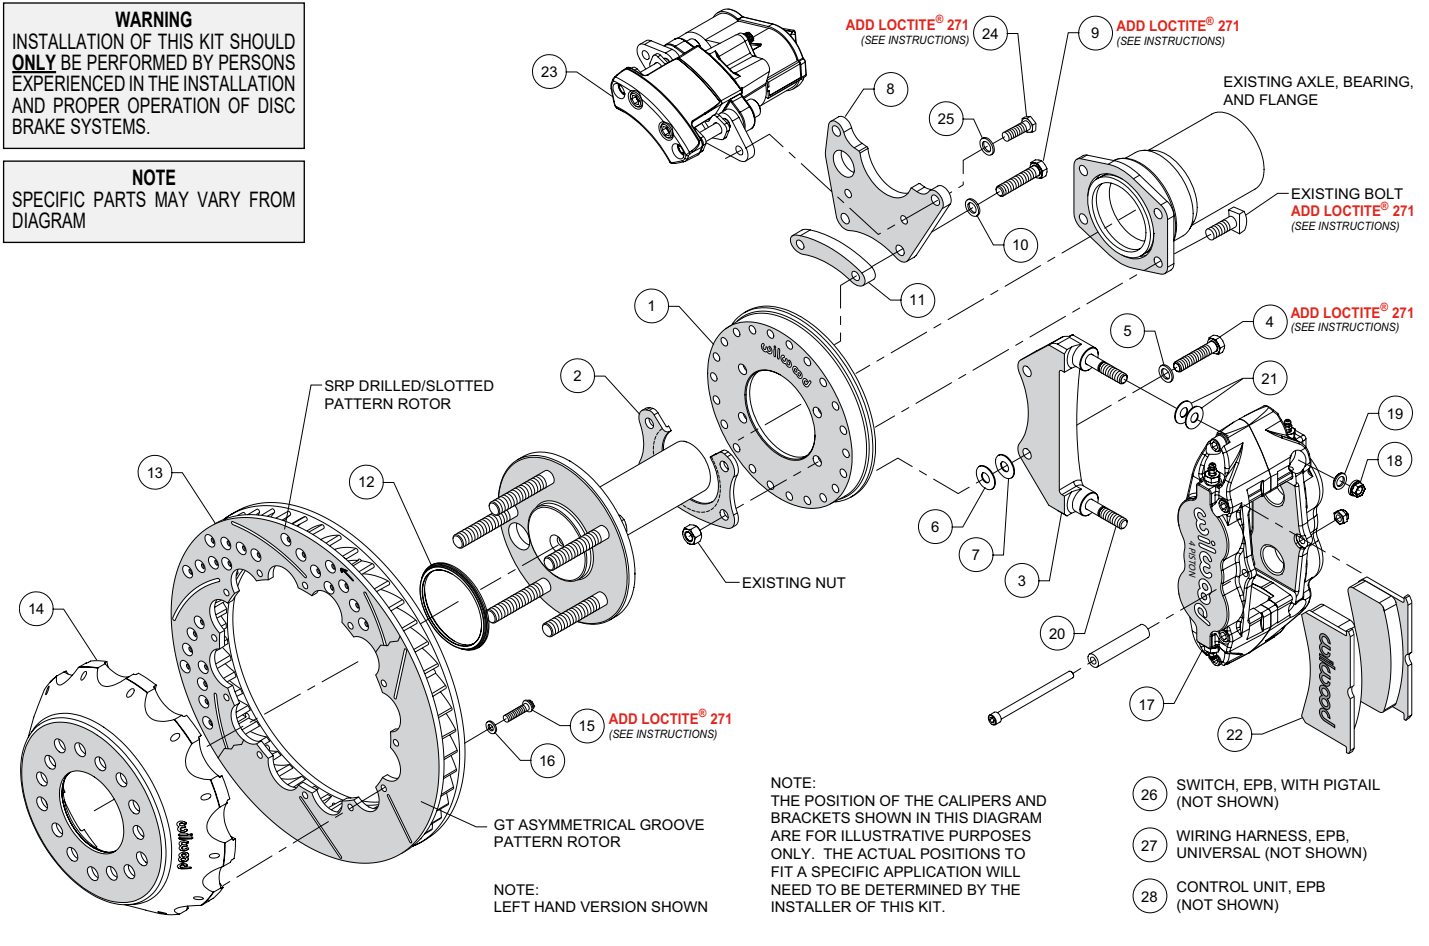
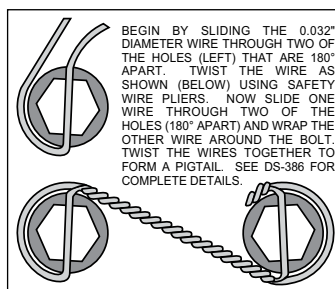

Figure 1. Typical Installation Configuration
Figure 5. Safety Wire Diagram
NOTE: Numbers in parenthesis refer to the parts list and Figure 1 on the preceding pages.
- Orient the backing plate (1) as shown in Figure 1 and Photo 1, and slide it onto the axle housing flange. Ensure the backing plate fits flush against the axle housing flange. Reinstall the axle into the axle housing.
- Install the bearing retainer (2) with the opening pointing upward and the lip facing inward (toward the bearing), as shown in Figures 1 and 4, and Photo 2. Secure retainer and backing plate to the axle housing flange using the Original Equipment Manufacturer (OEM) bolts and nuts, Figure 1 and Photo 3. Apply red *Loctite*® 271 to the OEM bolt threads and torque to OEM specifications.
- Start by determining the best location for the service caliper (17). This caliper is usually mounted in the 3:00 or 9:00 o'clock position, but may be rotated up or down approximately 45 degrees and still allow for proper bleeding, Photo 4. Orient the service caliper bracket (3) as shown in Figure 1 and Photo 5, and install to the backing plate (1) in the desired location using bolts (4) and washers (5). Temporarily tighten bolts. Next, mount the service caliper onto the bracket. Mount the service caliper using lock nuts (18) and washers (19), Figure 1. Temporarily tighten the lock nuts. Check that the caliper (including inlet fitting and hose) has sufficient clearance to all surrounding components through the full suspension travel. Relocate the caliper/bracket on the backing plate as needed to ensure proper clearance is achieved.
- Determine the best location for the EPB caliper (23). **NOTE:** *The EPB caliper motor extends farther inboard than the service caliper and therefore needs additional consideration when determining a mounting location with sufficient clearance.* In the example application shown in Photo 6, the EPB caliper has sufficient inboard clearance to the leaf spring. However, if the EPB caliper were mounted closer to the 12:00 o'clock position, the inner body of the vehicle would hit the caliper during full compression of the suspension.
•Orient the EPB caliper bracket (8) as shown in Figure 1 and Photo 7, and install to the backing plate (1) in the desired location using bolts (9), washers (10), and spacer (11). Temporarily tighten bolts. **NOTE:** The EPB bracket is reversible. In one direction the bracket will position the EPB caliper closer to the service caliper, and vice versa if reversing the bracket. Next, mount the EPB caliper (23) to the bracket using bolts (24) and washers (25). Temporarily tighten bolts. **NOTE:** EPB calipers are Left and Right handed, however they can be used on either side of the vehicle to best suit your specific application. Check that the EPB caliper (including wiring harness connector) has sufficient clearance to all surrounding components through the full suspension travel. Relocate the EPB caliper/bracket on the backing plate as needed to ensure proper clearance is achieved.
•Once the caliper positions have been determined, remove both the service (17) and EPB (23) calipers, leaving both brackets in place on the backing plate. For the EPB bracket, remove the bolts one at a time, apply red *Loctite*® 271 to the threads, and torque to 35 ft-lb. The service caliper bracket will be final installed after shimming is determined.
•Orient the rotor (13) and the hat (14) as shown in Figure 1 and Photo 8. Attach rotor to hat using bolts (15) and washers (16). Apply red *Loctite*® 271 to the bolt threads and torque to 155 **in-lb** using a criss-cross pattern. For an added measure of security, the bolts may be safety wired using standard 0.032 inch diameter stainless steel safety wire as shown in Figure 5. Please refer to Wilwood's data sheet DS-386 (available at www.wilwood.com/Pdf/DataSheets/ds386.pdf) for complete safety wire installation instructions.
•Initially place two .035" thick shims (21) on each stud of the service caliper bracket (3), as shown in Figure 1 and Photo 10. Mount the caliper onto the bracket using lock nuts (18) and washers (19), Figure 1. Temporarily tighten the lock nuts and view the rotor through the top opening of the caliper. The rotor should be centered in the caliper, Photo 11. If not, adjust by adding or subtracting shims (6 and/or 7) between the service caliper bracket (3) and the backing plate (1). Always use the same amount of shims on each of the two mounting bolts. Once the caliper alignment is correct, remove the bracket mounting bolts (4) one at a time, apply red *Loctite*® 271 to the threads, and torque bolts to 35 ft-lb.
- Mount the EPB caliper (23) onto the caliper mounting bracket (8) using bolts (24) and washers (25), Figure 1. Apply red *Loctite*® 271 to bolt threads, and torque to 30 ft-lb.
• **NOTE:** The service caliper (17) in this brake kit utilizes a 1/8-27 NPT pipe thread inlet. OEM rubber brake hoses generally cannot be adapted to Wilwood calipers. The preferred method is to use steel adapter fittings at the caliper, either straight, 45 or 90 degree (use PTFE tape on pipe threads of adapter fitting for proper sealing to caliper) and enough steel braided line to allow for full suspension travel. **Carefully route hoses to prevent contact with moving suspension, brake or wheel components.** **NOTE:** Wilwood hose kits are designed for use in many different vehicle applications and it is the installer's responsibility to properly route and ensure adequate clearance and retention for brake hose components. Wilwood offers universal brake flex line hose kits, domestic (3/8-24 IF) chassis fittings, order: